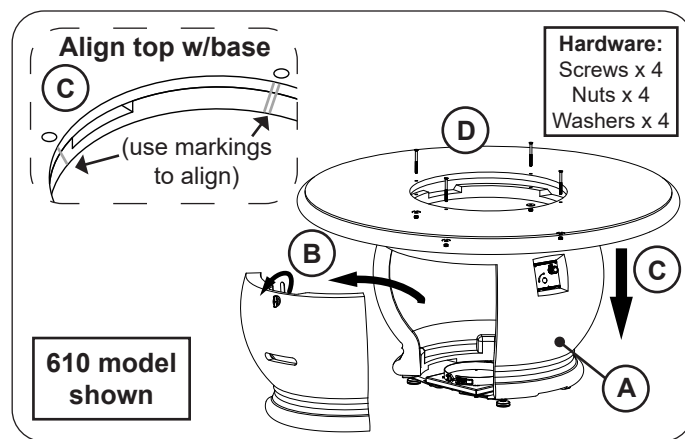

Fig. 31-1 Place base, remove door, place top, and fasten
1. **Carefully** remove the valve and burner assembly from the base, then **carefully** place the base in an appropriate location (see Fig. 31-1, A, and refer back to the LOCATION section if needed).
2. Remove the storage door by first turning the door handle counter-clockwise, then carefully pulling the door outward (see Fig. 31-1, B). Store in a safe location.
3. **Carefully** place the top on the unit, ensuring that the markings along its inner ring align with those found on the base (see Fig. 31-1, C).
4. Use a flathead screwdriver and the supplied bolts (4), nuts (4), and washers (4) to fasten the top to the base as shown in Fig. 31-1, D.